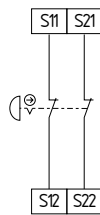

Fig. 7
**Dual-channel emergency stop circuit with command devices to ISO 13850 and IEC 60947-5-5 (Fig. 7)**